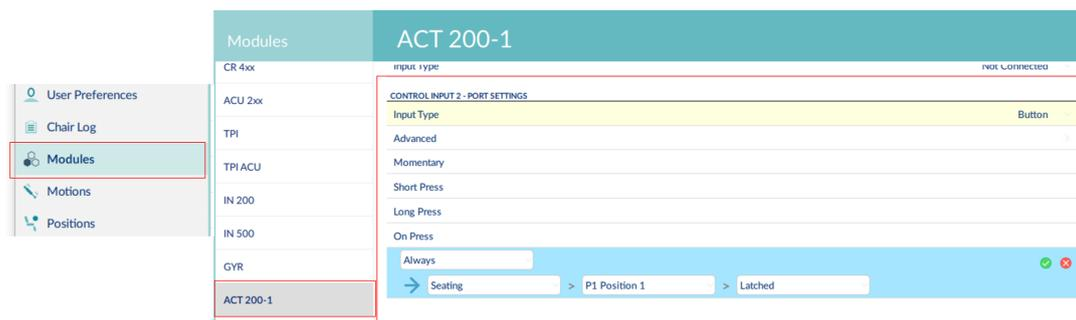

Figure 118: Configure a control input
1. From the LiNX Access tool, go to **Modules | [module] | CONTROL INPUT [n] - PORT SETTINGS** (where [module] is a power module or actuator module, and [n] is the control input number) — see *Figure 118*.